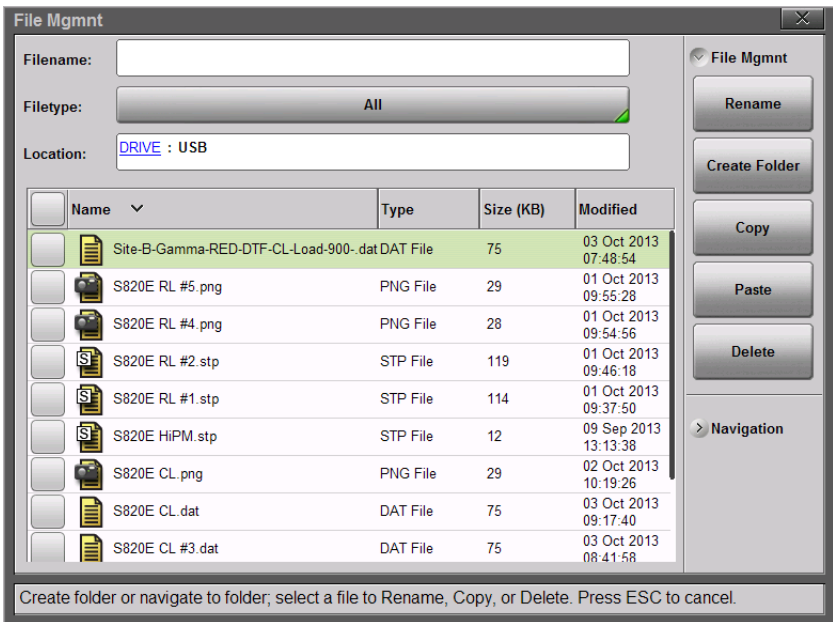

Figure 10-21. Files Pasted to the External USB Drive
6. Select **Paste** to copy the selected files and folders from Internal memory to the USB drive (Figure 10-21) or to **Move** the files (which copies the files to the new destination and then deletes them from the original destination). The choice of copy or move is made using the message box that appears after the Paste button is pressed (Figure 10-20).